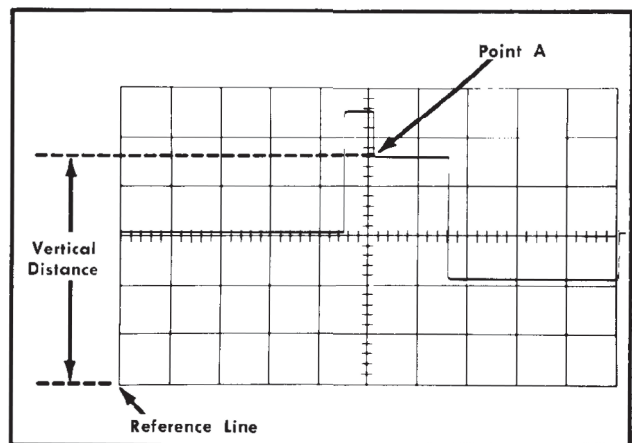

Fig. 2-6. Measuring instantaneous DC voltage with respect to a reference voltage.
9. Measure the distance in divisions between the reference line and the point on the waveform at which the DC level is to be measured. For example, in Fig. 2-6 the measurement is made between the reference line and point A.
Example. Assume that the vertical distance measured is 4.6 divisions (see Fig. 2-6), the waveform is above the reference line, using a 10× attenuator probe and a VOLTS/CM switch setting of 2.